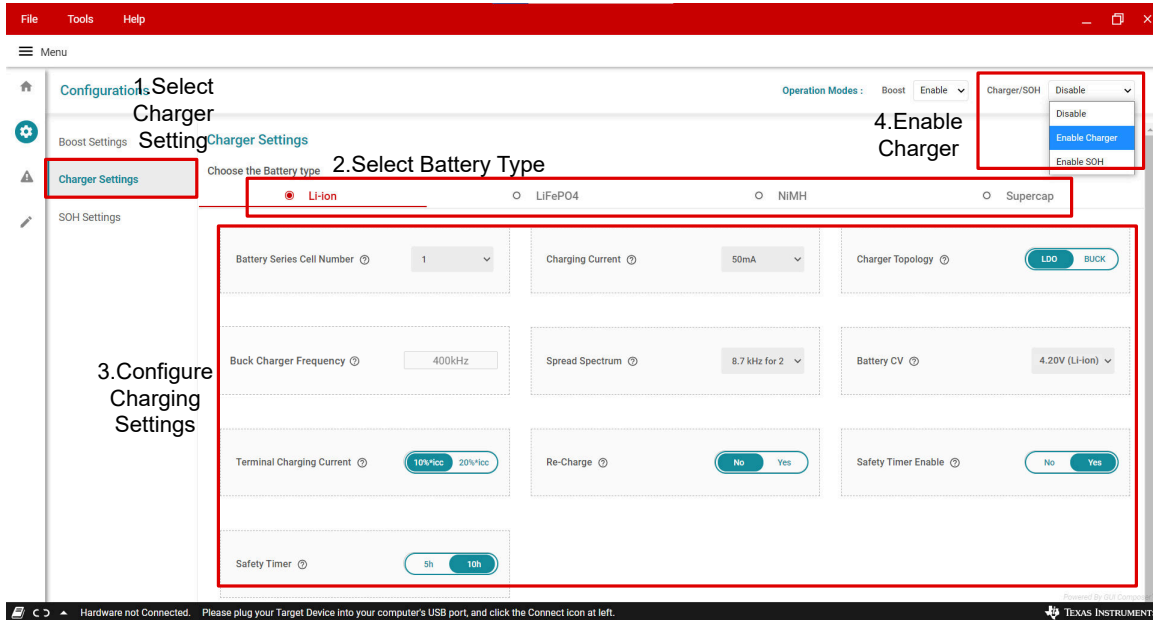

Figure 3-4. Charger Settings Sheet
- Click the *Charger Settings* button and switch to Charger Settings Sheet (see Figure 3-4). The charger is set to Li-ion mode by default. Set the charger mode battery type, cell number, CC current, and so forth according to the design target.